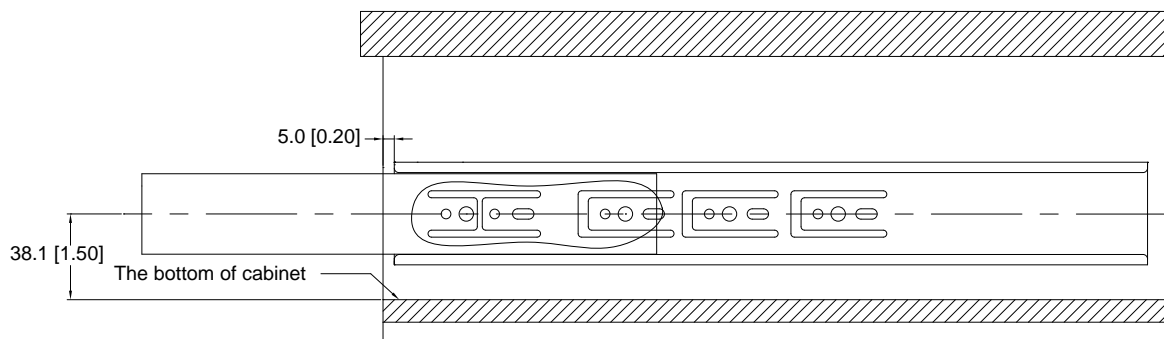

Fig.2
3. Install the cabinet members as indicated in Fig.2. Make sure both cabinet members are vertically and horizontally parallel.